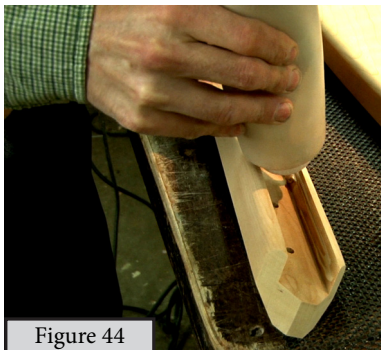

Figure 44
44) Apply glue and fit the neck to the pillar. Use the provided #14 x 2" wood screws and #3 size square drive bit to draw the neck and pillar together firmly. (Figures 44 & 44a)